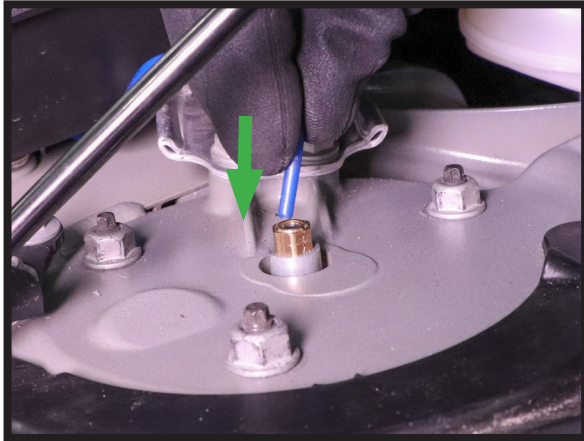

FIGURE 21
6. INSTALL AIR LINE BY PUSHING THE LINE INTO AIR FITTING UNTIL IT IS FIRMLY SEATED. (FIGURES 21, 22)